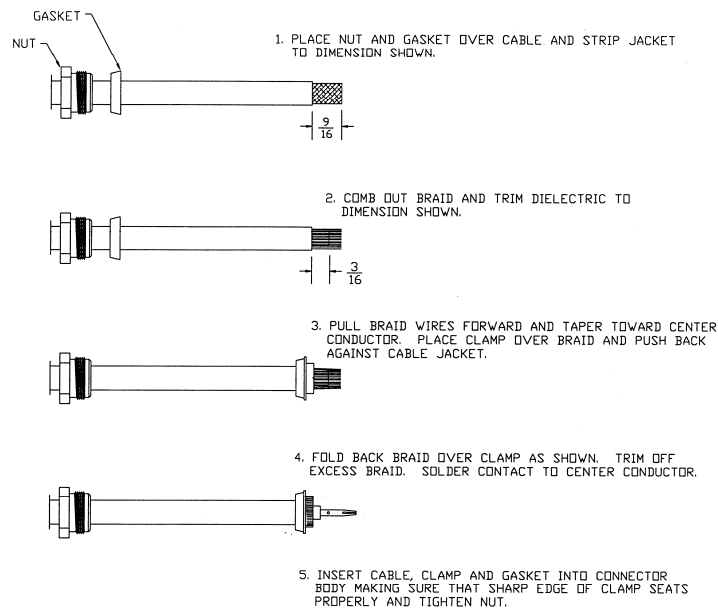

Figure 3-1. Coaxial Cable Installation
2. Trim the coaxial cable to the desired length and install the BNC connector (330-00087-00) per the cabling instructions on Figure 3-1. If the connector is provided by the installer, follow the connector manufacturer's instructions for cable preparation.